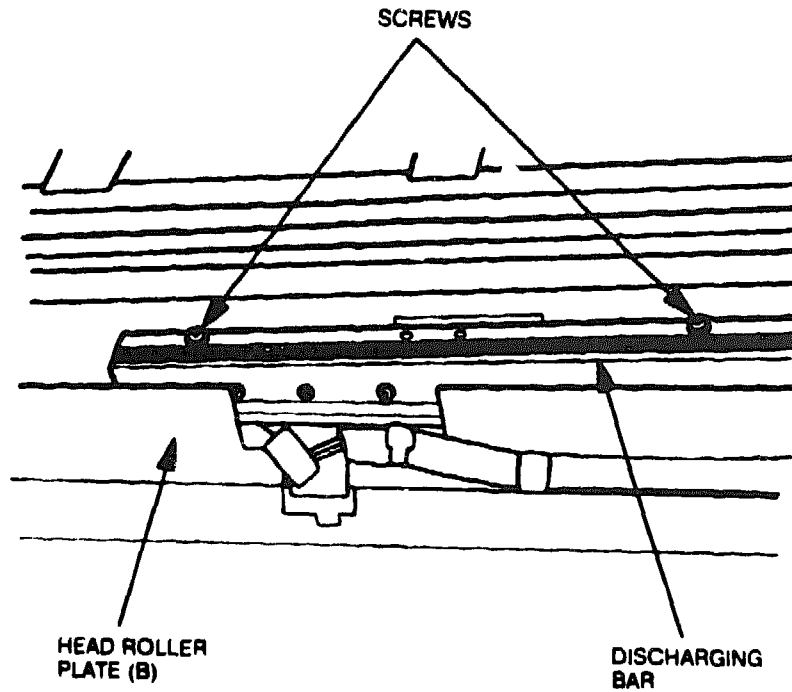

Figure 6-51 Head Roller Plate (B) Discharging Bar
7. Using a stubby or offset-type screwdriver, remove the two screws that secure the discharging bar to the head roller plate (B) and lift the bar off the plate (see Figure 6-51).